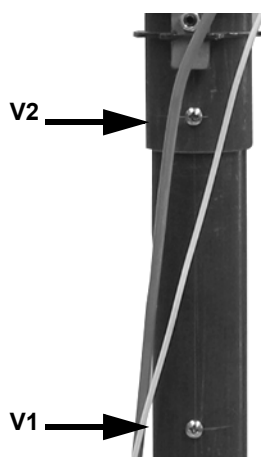

Fig. 10
- 1 Remove the screws **V1** and **V2** as shown in Fig. 10.